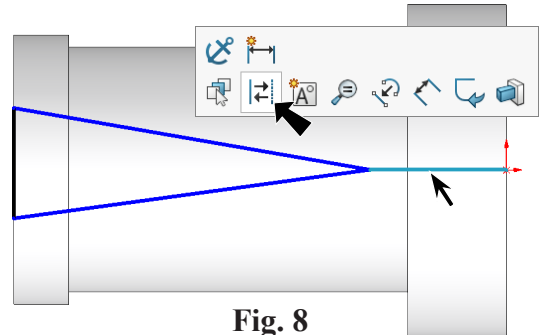

Fig. 8
Step 3. Click **Line**  (L) on the Sketch toolbar.
Step 4. Use the Inferencing line, the dotted line that appear as you sketch, start a line out to left of **Origin** and sketch the 4 lines ending up back at Origin. **Right click** just after last endpoint at Origin and click **Construction Geometry**  on the context toolbar, **Fig. 8**.